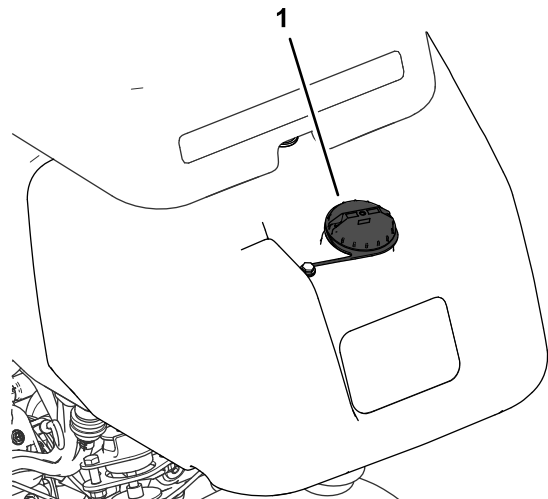

Figure 28
1. Clean around the fuel-tank cap and remove it (Figure 28).